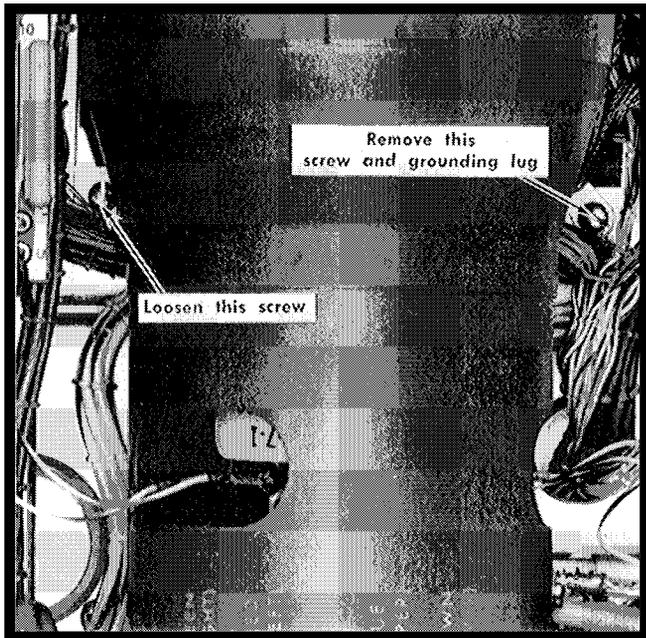

Fig. 4-10. Mounting screws for the honeycomb assembly.
1. Remove the six (6) nuts and washers that hold the IF ATTENUATOR dB switches at the front panel assembly.
2. Remove the chassis mounting screw and grounding lug located at the outside rear end and loosen the inside rear mounting screw. See Fig. 4-10.